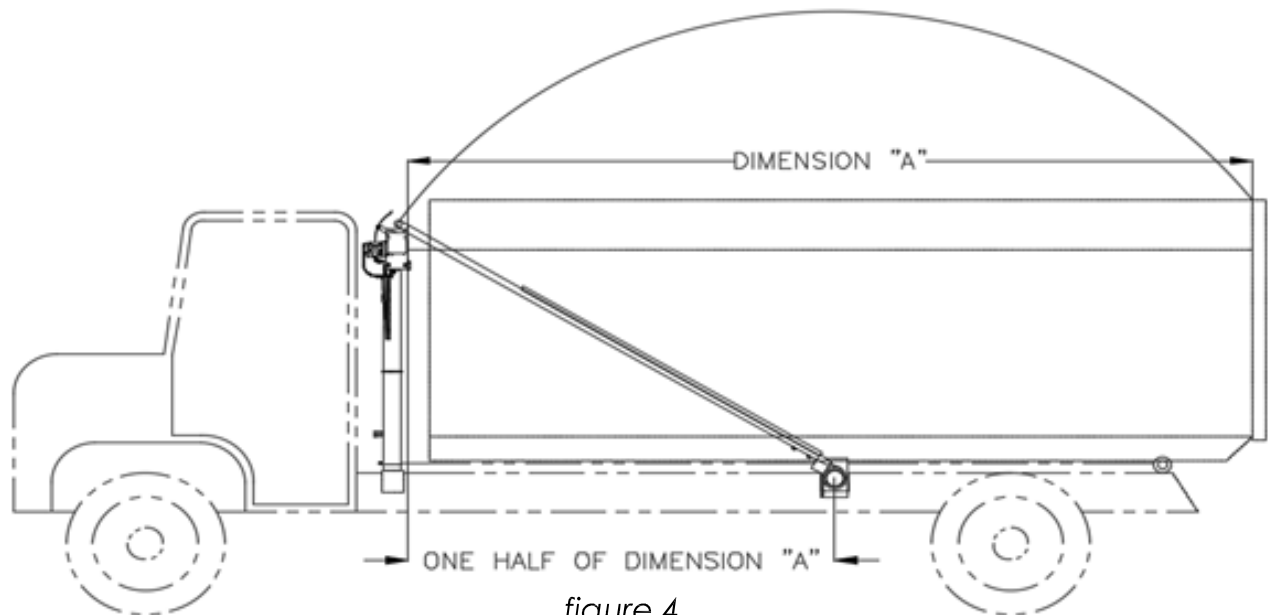

figure 4
B. Measure the distance from the back side of the tarp roller to the front side of the rear door on the container (Dimension “A”). Dividing this measurement in half will give you a starting point for locating the Arm Mounting Brackets (G1531). See the *figure 4* on page 11 for reference.
C. Insert one Bow Corner (G2099) into an Upper Arm and slide the Arm onto the Arm Mounting Bracket pivot tube. Swing the Arm towards the gantry and adjust the bow in or out so that it rests approximately above the center of the roller shaft on the end bearing plate of the roll assembly. Secure the bow to the arm with clamps and swing the arm thru its arc to the rear of the truck. The bow, which will hold the rear section cross tube, should line up with the front edge of the door on the container. If the bow goes past the rear of the container, the Arm Mounting Bracket will have to be moved forward and the arm length shortened accordingly. If the bow falls short of the rear of the container, move the Arm Mounting Bracket toward the rear of the truck and lengthen the arm. Re-position the bracket if necessary and re-check as outlined above in figure 4.